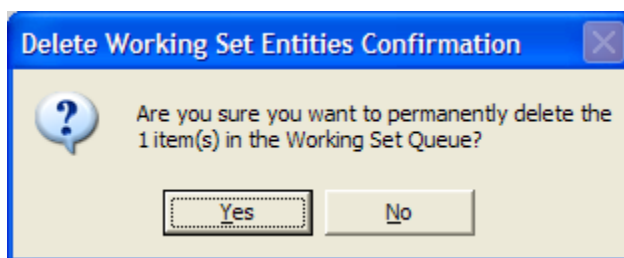

Figure 12-8 Deletion confirmation dialog
4. You will be presented the confirmation dialog of Figure 12-8. Always very carefully read this dialog to ensure that you are only deleted the entities that you meant to delete! When sure, press **Yes**. The entity is deleted.